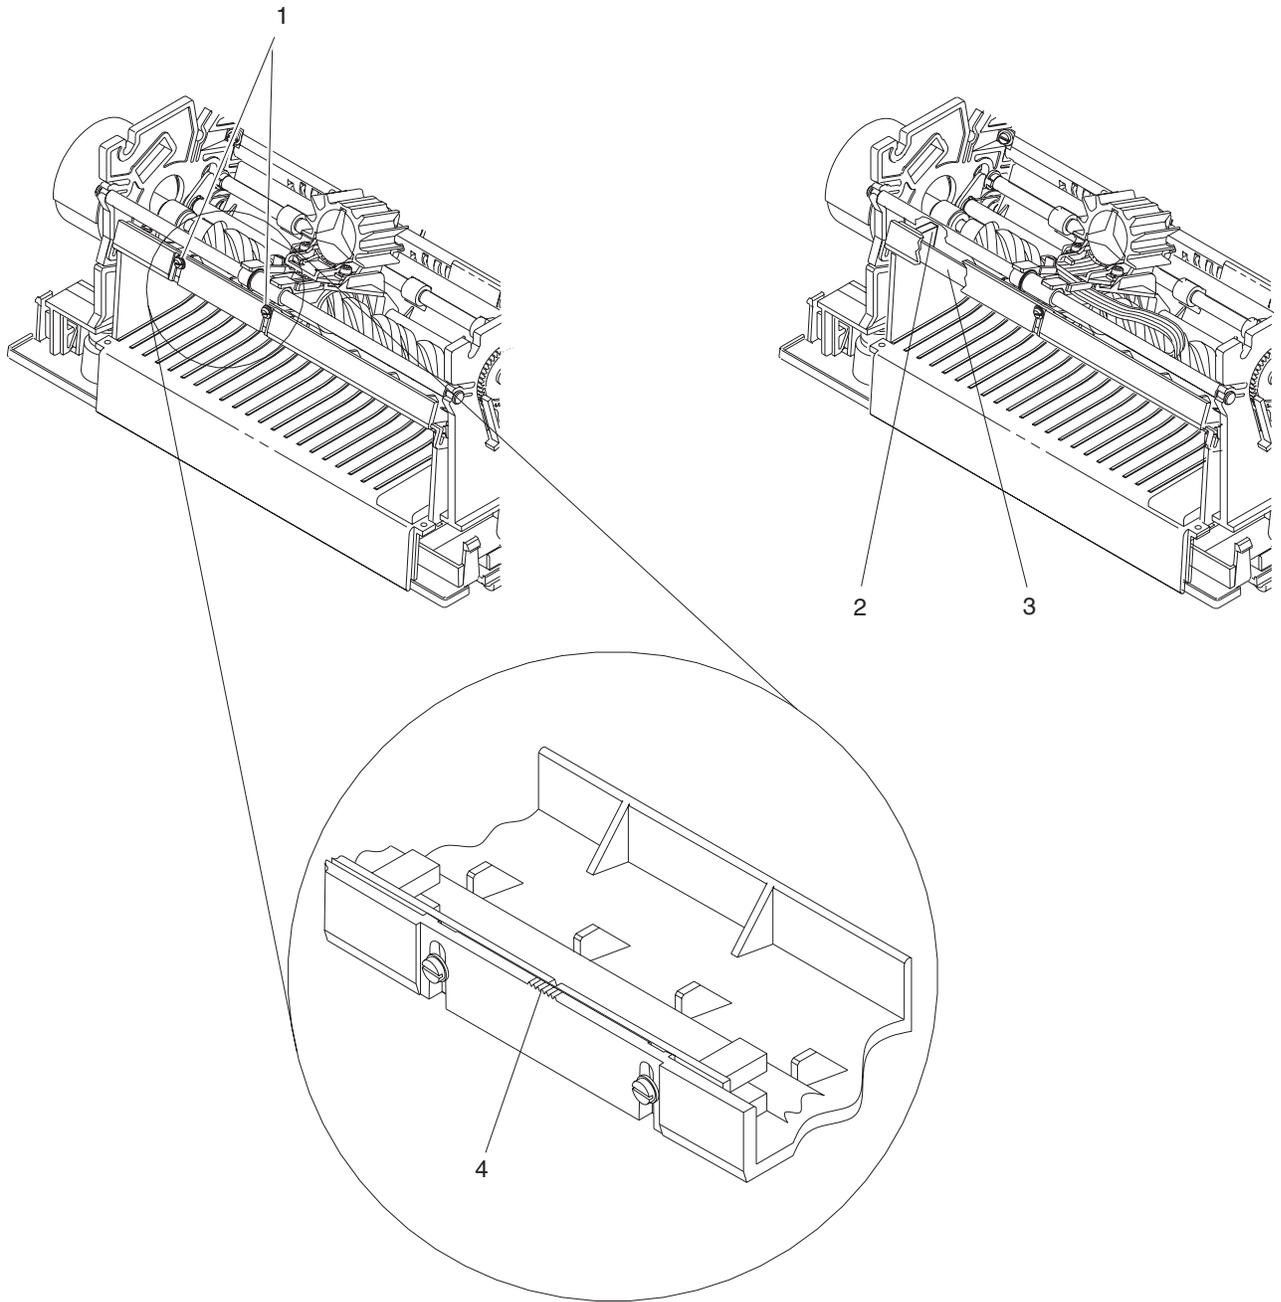

Figure 6-84. Home Sensor Card
- 4 Disconnect the sensor cable from the home sensor card. See Figure 6-84 on page 6-119. The cable is located on the far left side of the card. Make note of how the cable is routed for reinstallation.
- 5 Mark the location of the two screws (1) on the upper forms guide to establish the location of the home sensor card.
- 6 Mark the notch in the edge of the upper forms guide (4) that is closest to the groove in the top edge of the home sensor card.
- 7 Remove the two screws (1), flat washers, and back-up nut plate.
- 8 Lift the home sensor card (3) out of the printer.